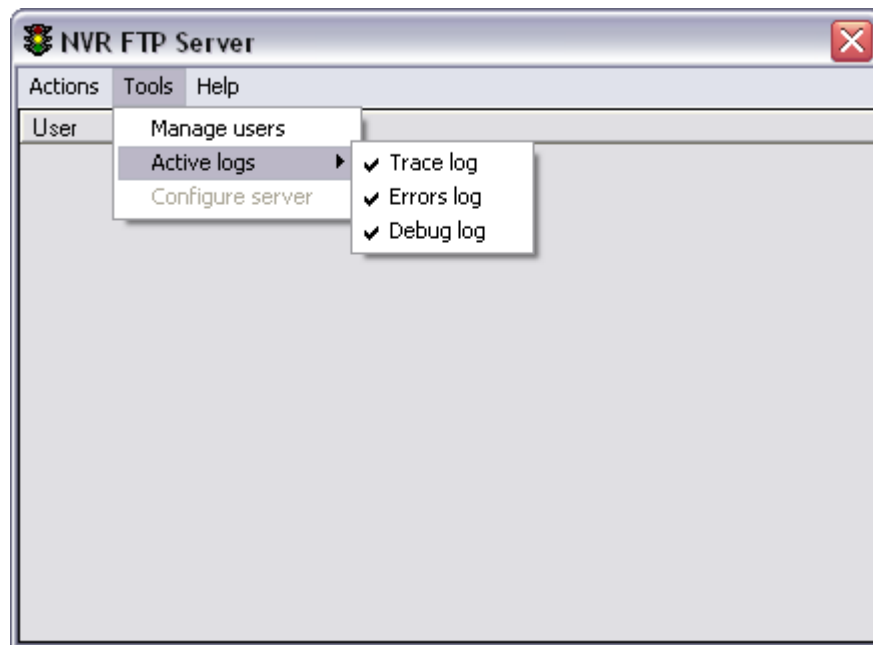

Fig 60. NVR FTP Server — Tools — Active Logs
1. Double-click the NVR FTP Server icon — the NVR FTP Server interface will launch (Fig 60).